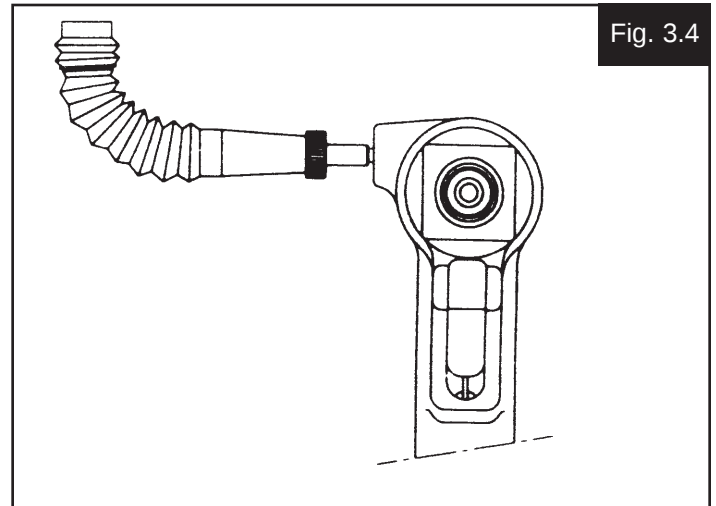

Fig. 3.4
7. Stand tool upright on bench. While actuating the trigger slowly (20 - 30 cycles), bend fill bottle at right angles to tool - - see *FIGURE 3.4*. Observe that air bubbles emerge from tool. When bubbles are no longer observed, cycling may be discontinued.